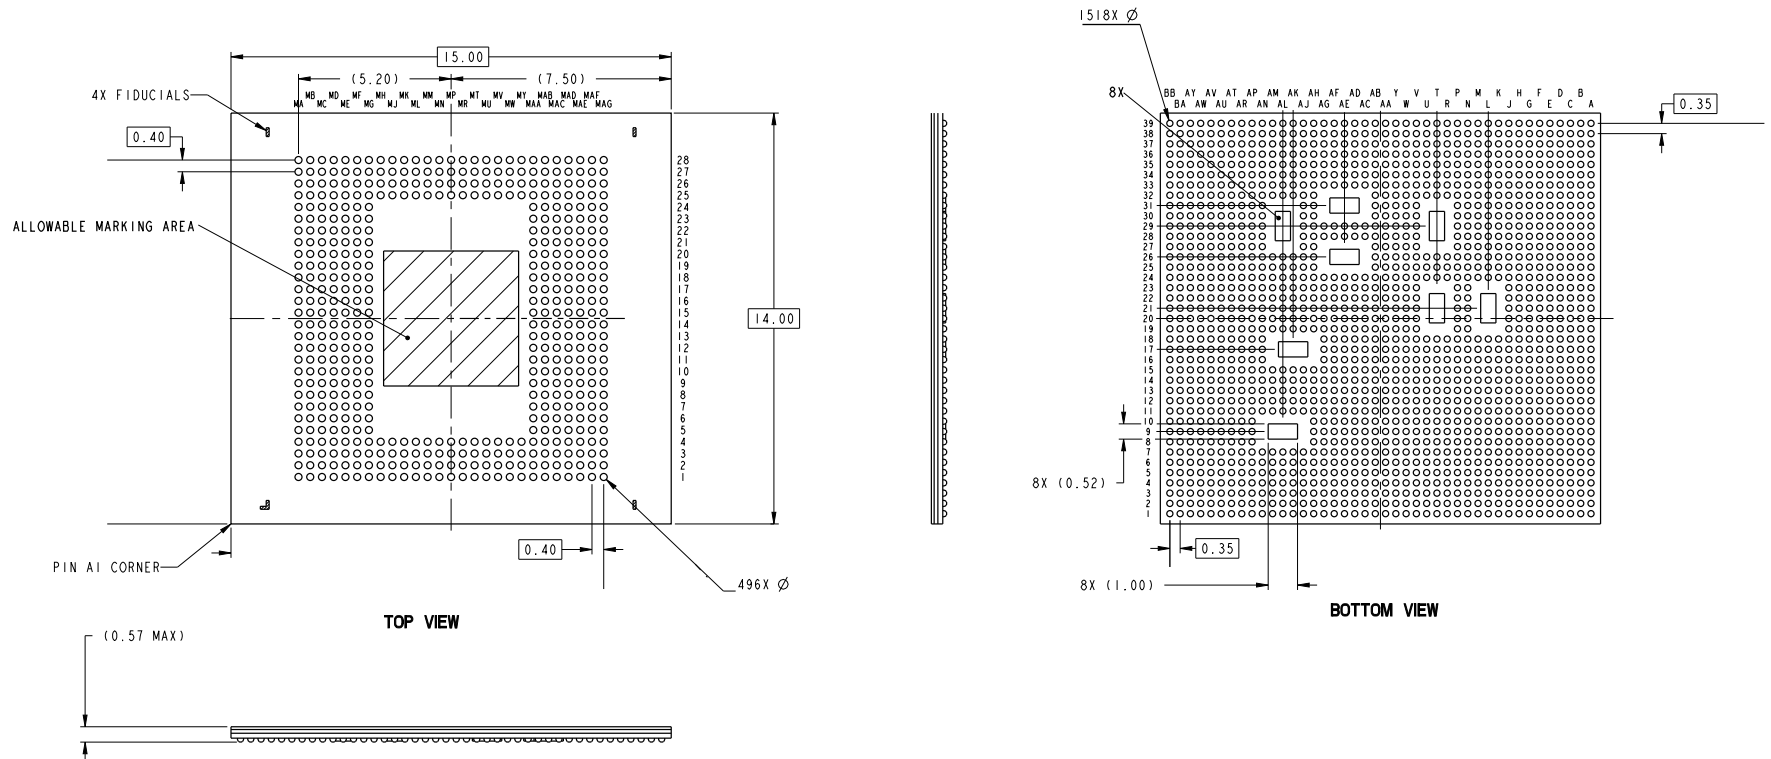

Figure 4-1 MPSP1518B outline drawing
14.0 mm body, with a maximum height of 0.57 mm. Pin A1 is located by an indicator mark on the top of the package, and by the ball pattern when viewed from below. A simplified version of the MPSP1518B outline drawing is shown in Figure 4-1.